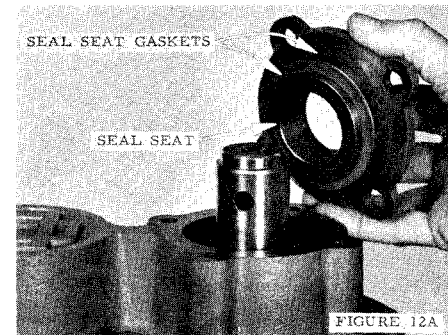

FIGURE 12A
12A. IF AIR-COOLED MODEL – Wipe carbon face of the seal and polished face of the seat with a soft, clean cloth to remove dust and dirt. Polished side of the seat must go next to the carbon face of seal. Place gasket on each side of the seat, Figure 12A, and install, with retainer plate over the shaft. Use care not to damage carbon face of seal. Tighten four (4) screws evenly – torque per table. The retainer plate will not pull up flush against the face of housing as it must clamp the seat and two gaskets to prevent oil leakage.